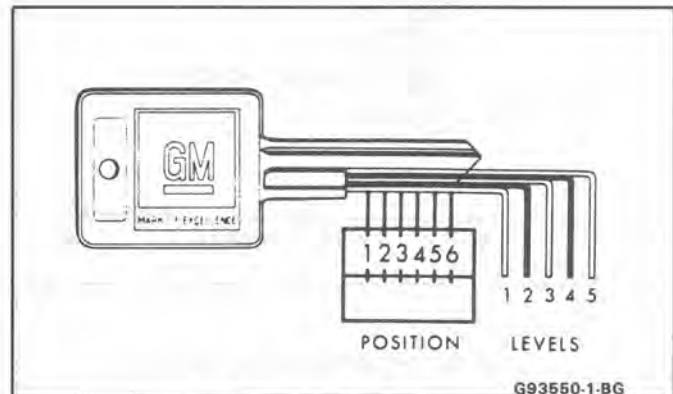

Fig. 1 - Key Code Diagram
Key identification is obtained from the four character key code stamped on the knockout portion of the key head and an identification letter stamped on the key shank. After the code number has been recorded by the owner, the plugs should be knocked out of the key head. From these numbers, the lock combination can be determined by use of a code list (available to owners of key cutting equipment from equipment suppliers). If key code numbers are not available from records or from the knockout plug, the lock combination (tumbler numbers and position) can be determined by laying key on diagram in Figure 1.
- Determine special code from the code list or the key code diagram (Fig. 1).
- b. Without numerical key code or without code list, refer to Figure 1.